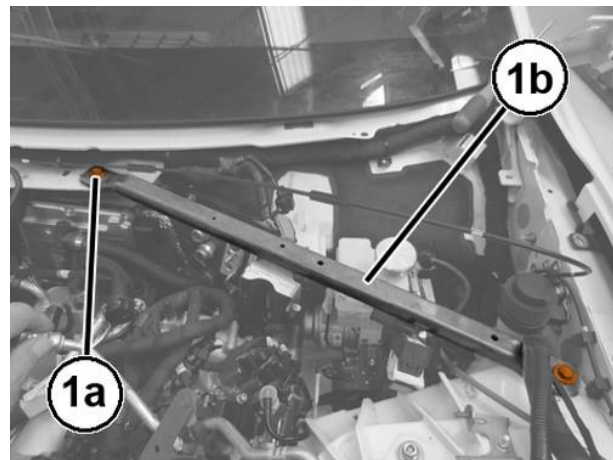

Figure 63 – Body Reinforcement
55. Remove the screws (1a) and remove the body reinforcement (1b) (Figure 63).